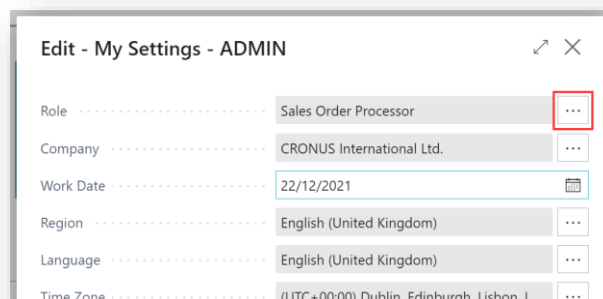

Figure 4-4
2. In the **My Settings** page, on the **Role** field, select the **AssistEdit** icon (*Figure 4-4*).